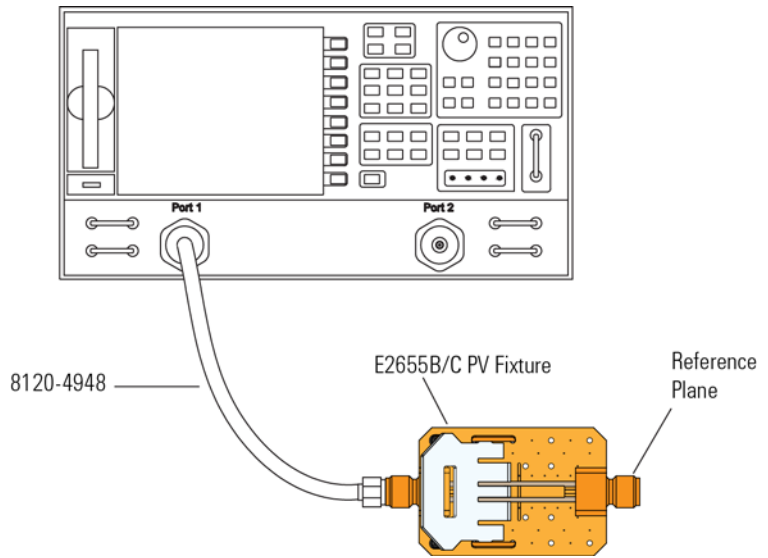

Figure 16 PV Fixture Connected to VNA
- 10** Connect the PV fixture to the **Port 1** on the VNA using a high quality SMA cables. Connect the cable to the pincher side of PV fixture as shown in Figure 16 on page 44.